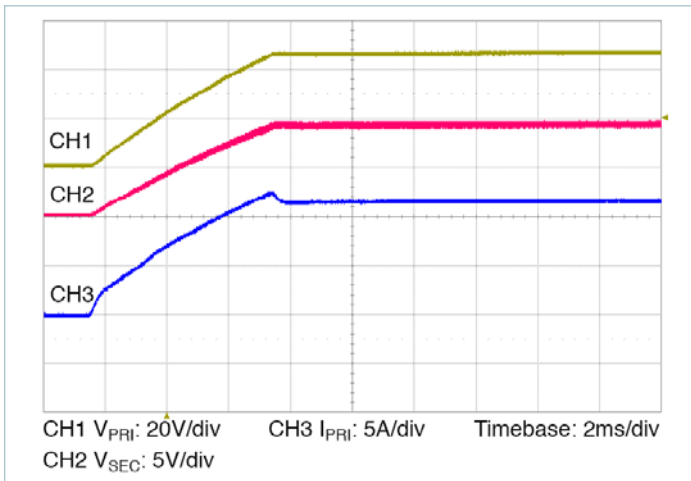

Figure 13 — Start up from application of V_{PRI} ; V_C pre-applied $C_{SEC} = 1000\mu\text{F}$
- **Normal operation (VC applied prior to the source voltage):** In this case the controller is active prior to the source ramping. When the source voltage is applied, the VTM module load voltage will track the source (See Figure 13). The inrush current is determined by the source voltage rate of rise and load capacitance. If the VC voltage is removed prior to the primary voltage reaching 26V, the VTM may shut down.